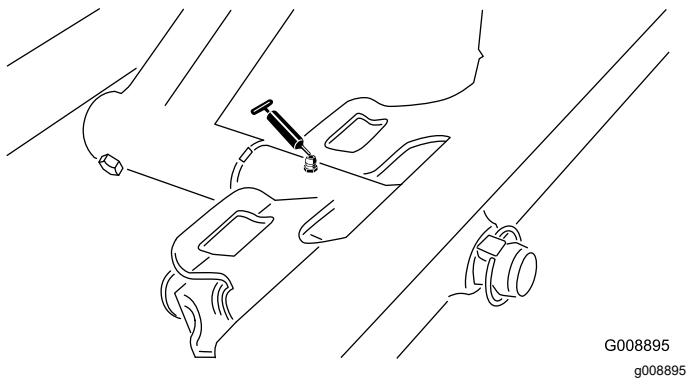

Figure 33
- Front cutting-unit pivot (Figure 33)